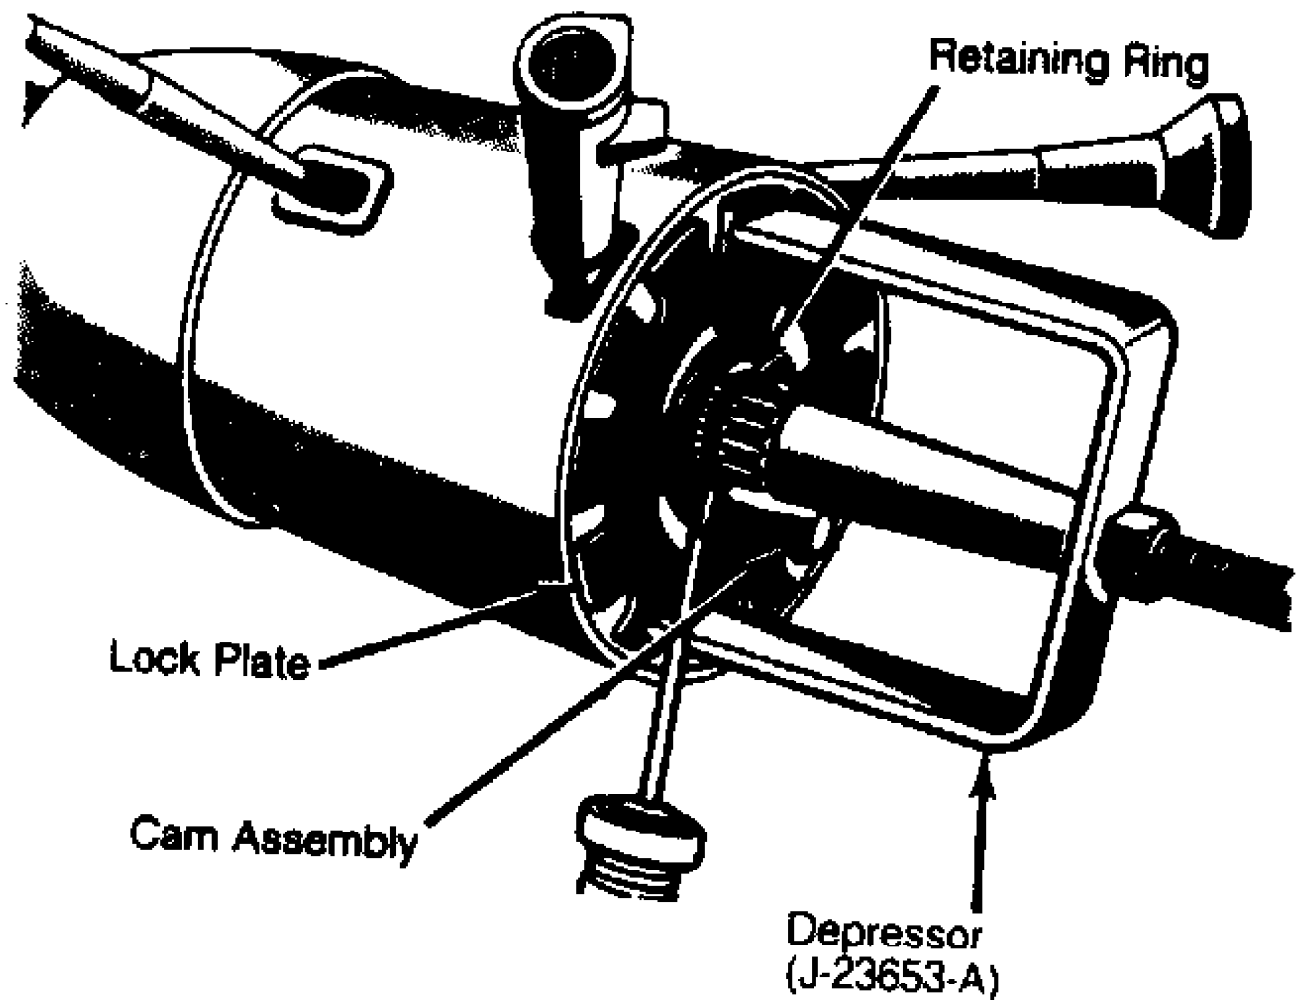

Fig. 9: Installing Lock Plate Retaining Ring
14) Install cruise control harness (if equipped). Install upper bearing preload spring, canceling cam and lock plate. Depress lock plate with depressor and install new snap ring. See Fig. 9. Install lock plate cover. Install gear selector lever and retaining pin (if equipped).